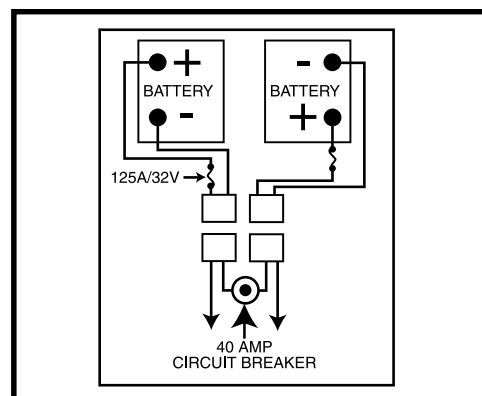

Figure 14. Battery Wiring Diagram
7. Place a new battery in each battery box. Face the battery terminals toward the seat post. **See figure 14.**